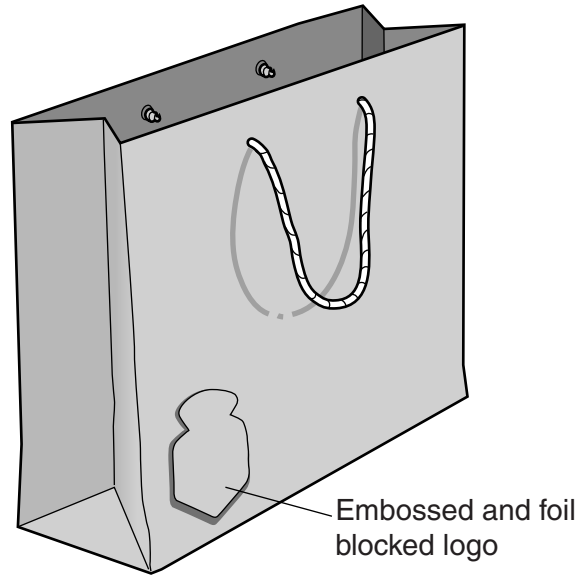

Fig. 5
Fig. 5 shows an embossed and foil blocked gift bag.
(a) Give **four** justified design requirements for an embossed and foil blocked gift bag of the type shown in Fig. 5.
(b) Describe **two** ways that ergonomics may have been considered in the design of an embossed and foil blocked gift bag of the type shown in Fig. 5.
(e) (i) State a **suitable specific material** for the gift bag shown in Fig. 5.
- (ii) Describe, in detail, how the decoration on the gift bag shown in Fig. 5 would be applied by embossing and foil blocking.